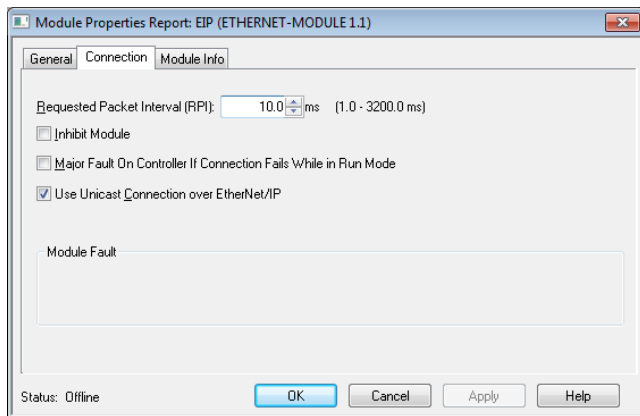

Figure 26: Module Properties Connection Tab
- 20) You should now see the new module (named “ETHERNET-MODULE Interface_Card”) in the 1756-ENBT branch under the I/O Configuration in the controller organizer view. Right click on this new module, choose “Properties”, and select the Connection tab. Refer to Figure 26.